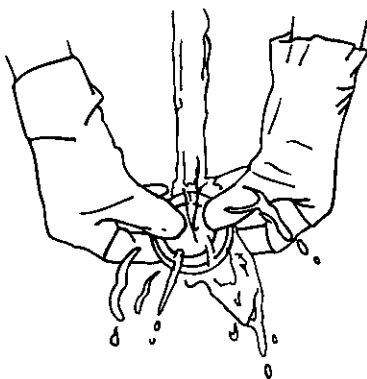

Figure 3.19 Thoroughly wash the cap under running water.
5. Clean the vaporizer cap under running water making sure each hole is clean (Fig. 3.19).